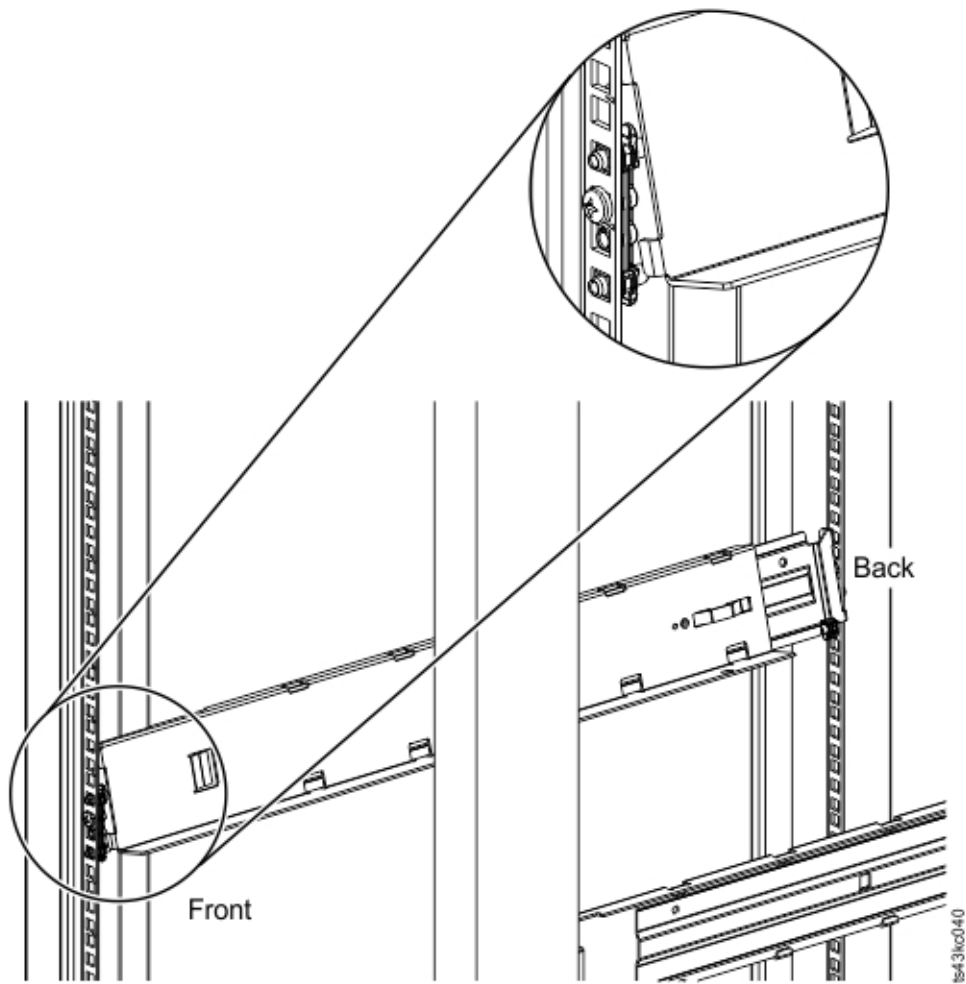

Figure 40. Mounting the rails to the connectors
- d. Mount the LH Rackmount rail to the connectors. See Figure 40.